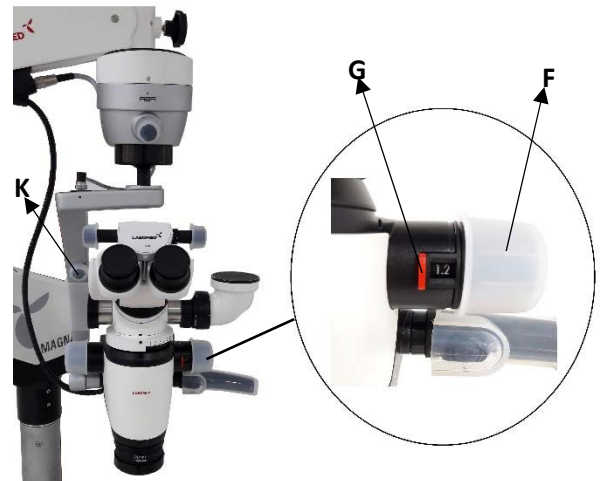

Fig. 20
- Rotate these clockwise to increase and anticlockwise to decrease the level of magnification as shown in Fig. 20.
- Pressing the Red click button **(G)** located besides the Magnification indicator will select the 8 step magnification. Pressing the same Red click button from reverse side to select the magnification in continuous zoom as shown in Fig. 20.